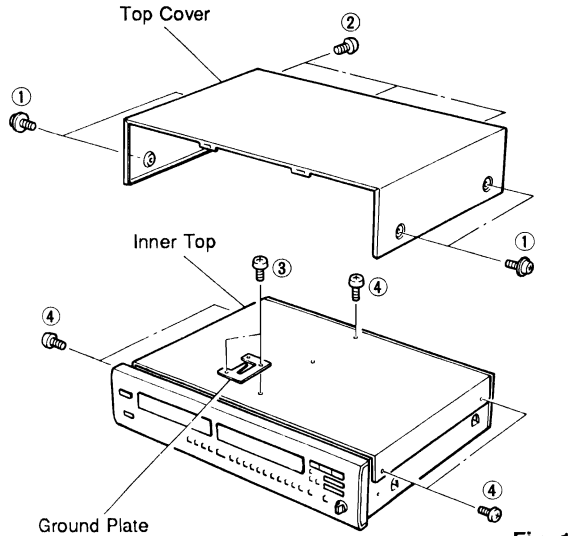

Fig. 1
- a. Remove 4 screws (①) and 3 screws (②) in Fig. 1.
- a. Remove 2 screws (③) and then remove the Ground Plate in Fig. 1.
- b. Remove 5 screws (④) in Fig. 1.